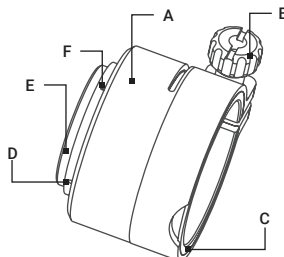

FIGURE 2-7. FRONT SCOPE MOUNT
Install the Victrix on the lens of a day scope as follows (refer to Figure 2-7):
3. Using a screwdriver, remove the M2×2.5 screws (F, see Figure 2-7) and then unscrew the ring (E).
To loosen the ring (E, Figure 2-7), use the two auxiliary non-threaded holes (D). DO NOT USE the threaded ones.
4. Using a lathe or other precision cutting tool, cut the inside face of the ring (E, Figure 2-7). The value of cuts (in millimeters) should be equal to the value of the turning angle (in angular degrees) divided by 360° .
5. Screw the ring (E) into the FSM's body with its cut end directed inwards. Tighten the screw.
6. After applying a small amount of thread lock to the threads, affix the ring (E) using the two M2×2.5 screws (F).